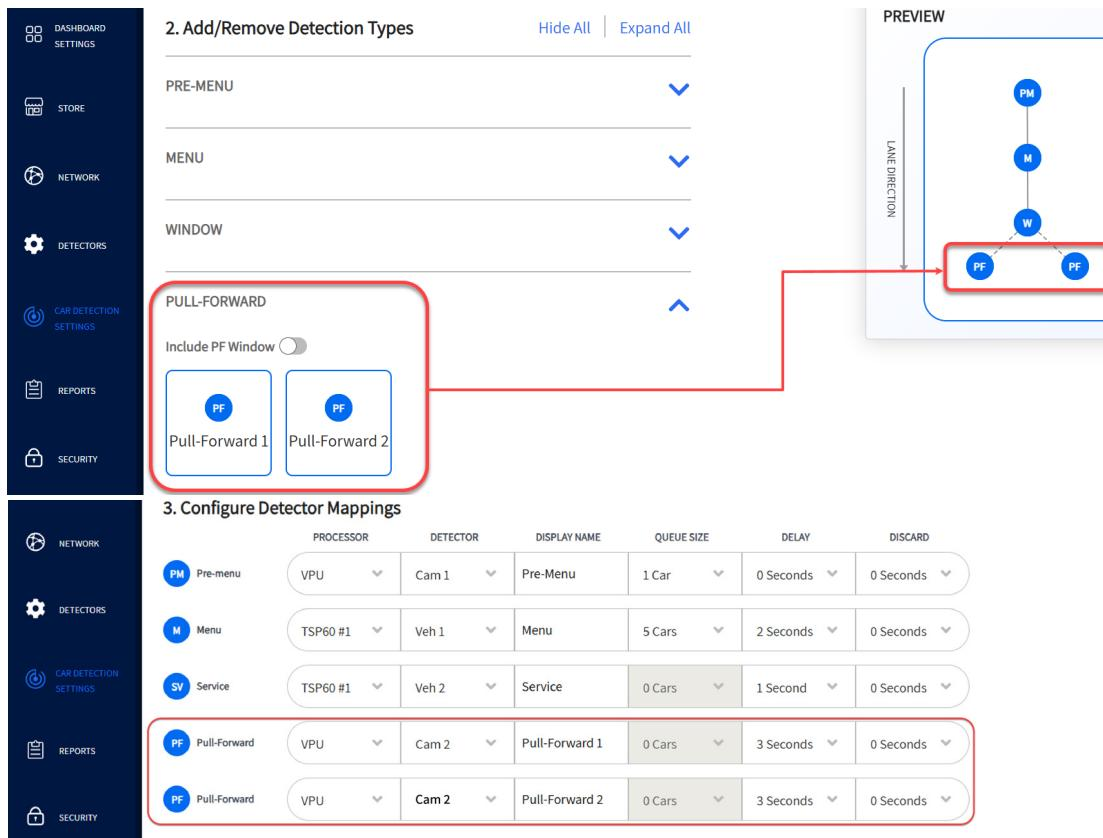

Fig. 7.11
Fig. 7.11 shows a Single Lane drive-thru with five detectors. In this example, Vision AI is used for the first, fourth, and fifth detector and a TSP for the other two. When used for a Pull-Forward zone:
- From the PULL-FORWARD drop-down, click/tap the + (Add) tile. In this example two are added. See Fig. 7.11. (Pull-Forward Windows are not currently supported using Vision AI.)